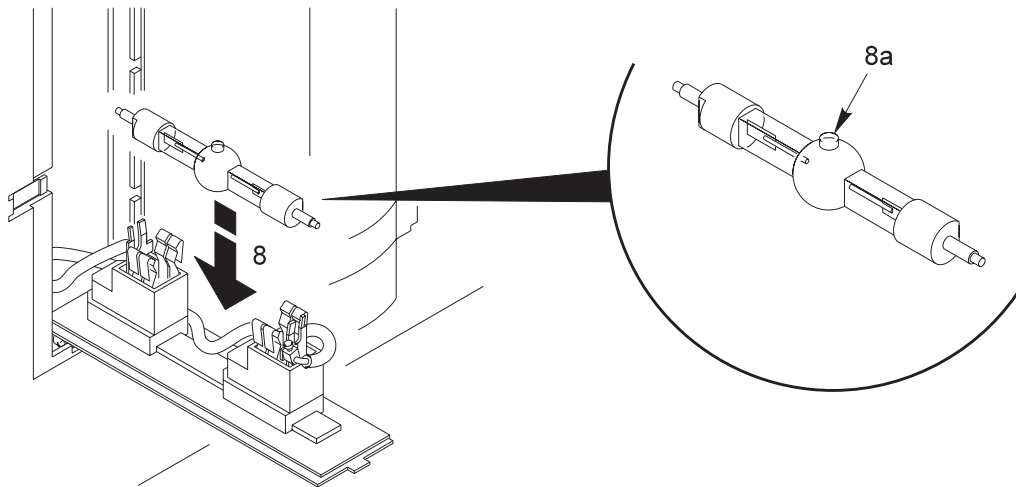

Figure 6-3. Replacing the Lamp
11. Install the new lamp (**3M Part Number 78-6969-8424-0**) by pushing down on the ends of the lamp (**8**) with equal pressure. Take care to correctly align the lamp with the bubble (**8a**) facing upward (see figure 6-3).